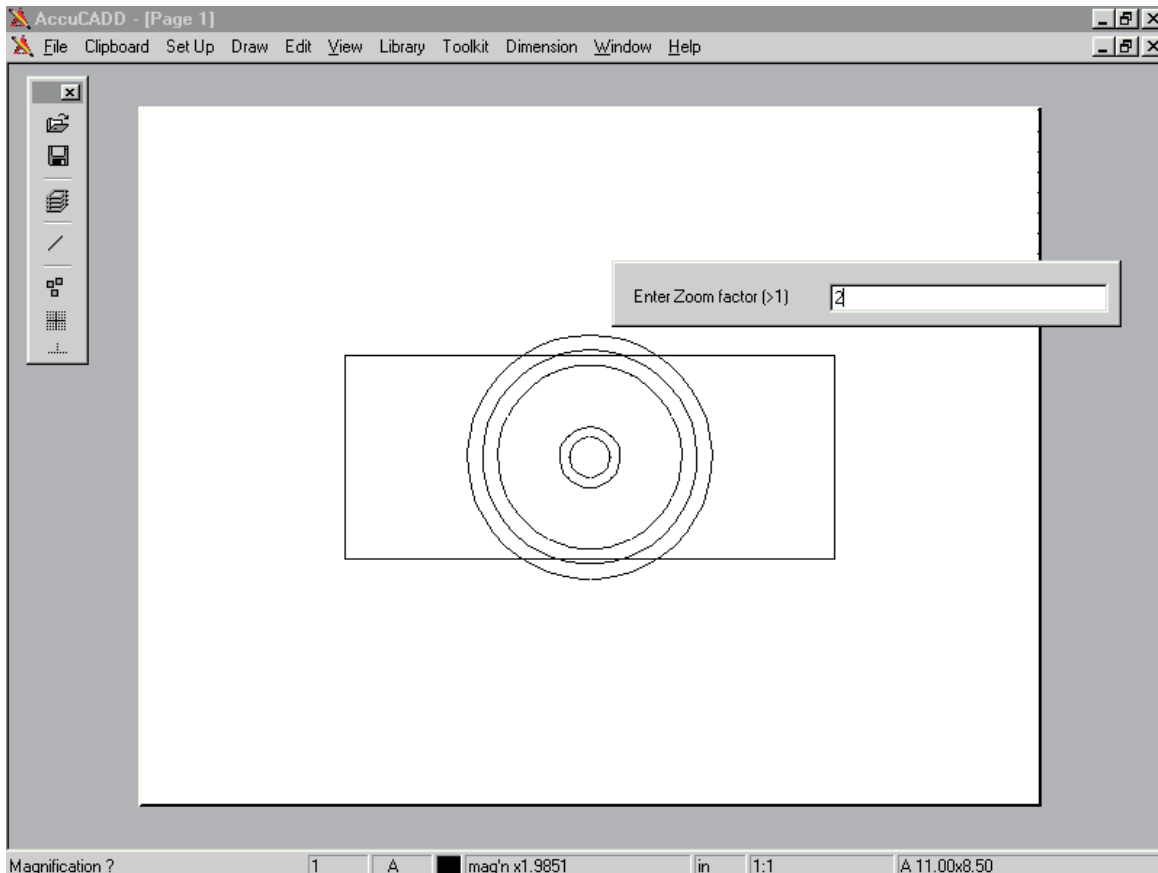

Figure 14: Zoom window set for 2x magnification
□ Set the window so that it just encloses the area of interest, then click to execute. Alternatively, you can set the magnification precisely by keying in a numerical value, followed by ENTER, as in Figure 14.